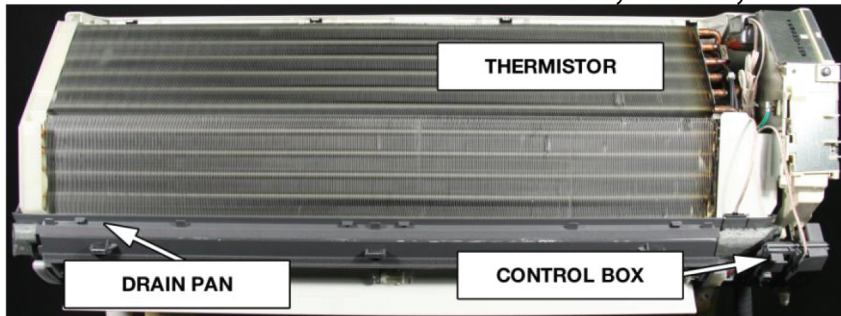

Fig 2: Typical indoor unit with cover removed
1. Remove front cover of indoor unit in order to expose the coil and the control circuit area of the unit (Fig 2). The disassembly of the front cover, air filters, and possibly electrical shields will vary according to style of indoor unit installed. See the Mitsubishi Electric's Technical Manual for detailed disassembly if necessary.